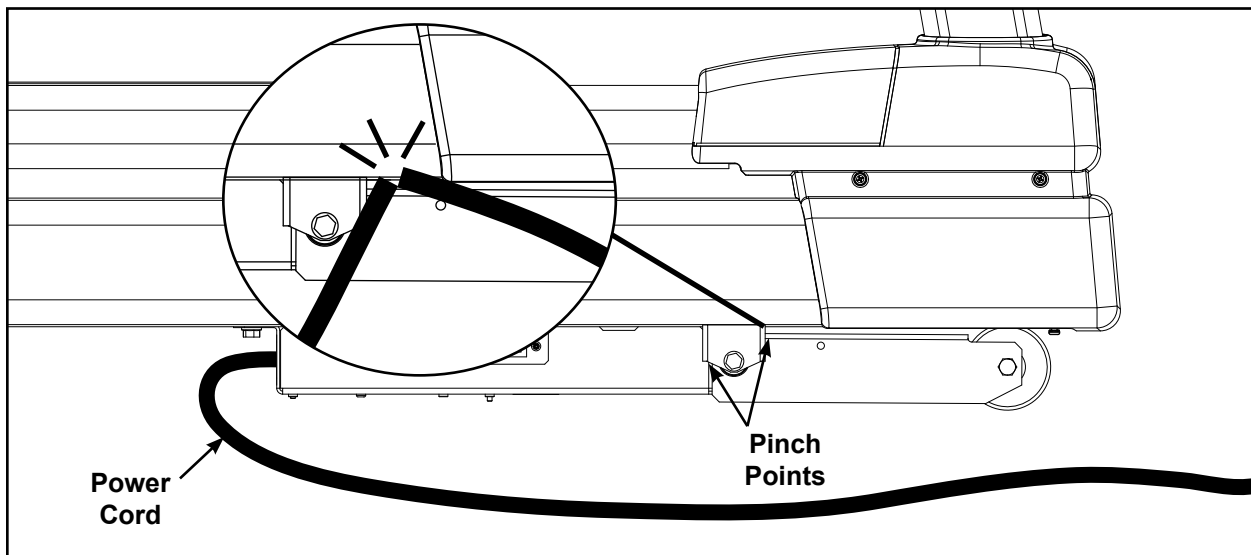

Figure 13
- A. Route power cord away from pinch points such as the elevation assembly. See Figure 13.